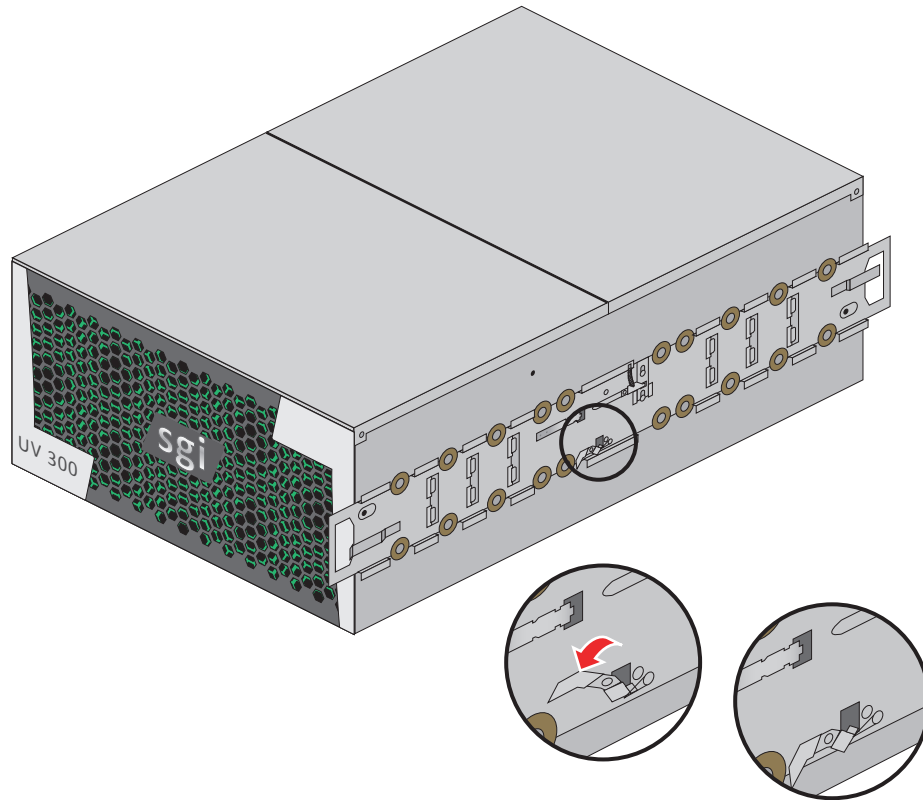

Figure 7-9 Return Latch to Home Position Example
5. You may have to move aside a safety latch in order to install some rolling rail screws. Be sure to set the safety latches back to their home positions after rolling rail installation is complete (see Figure 7-9 on page 88).